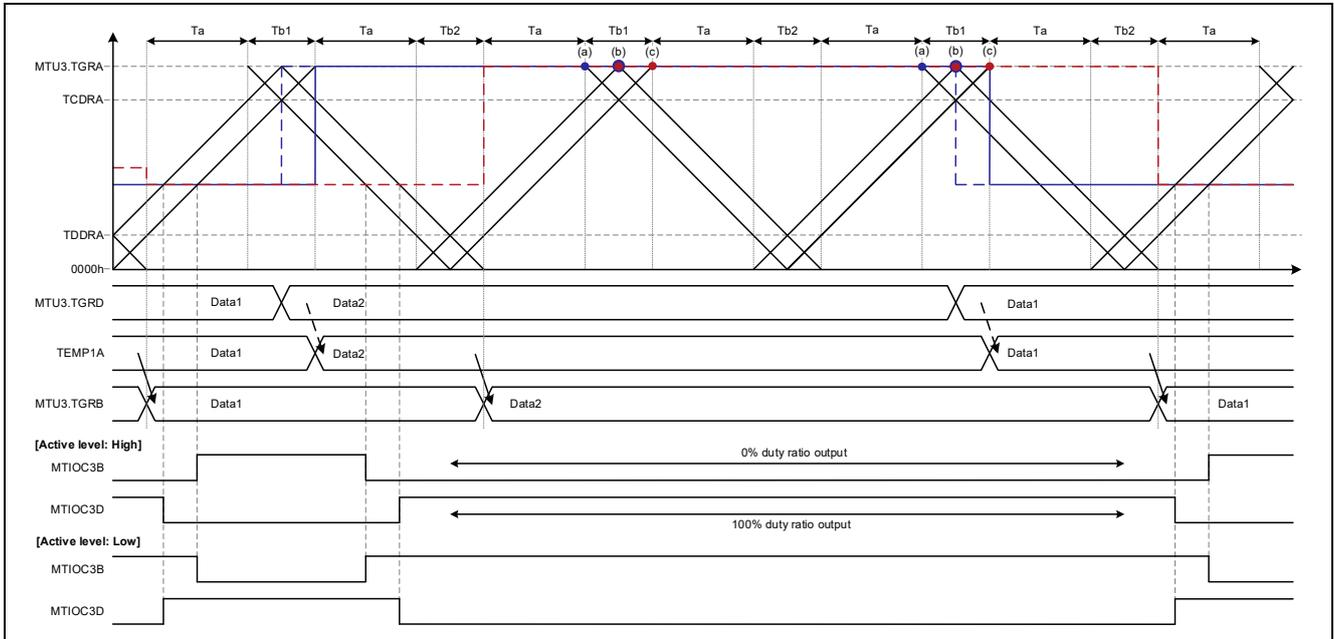

**Figure 1.4 Complementary PWM Mode 1 Operation Example
| | Crest | Figure 1.3 | Figure 1.4 | — | — |
- [Operation example 2] Figure 1.4, Complementary PWM Mode 1, Output Start: Crest, Ta Interval Overwrite
Figure 1.4 shows an operation example of buffer overwrite in the Ta interval in complementary PWM mode 1. Except for the difference in the buffer overwrite timing, the operation is the same as that shown in Figure 1.3.